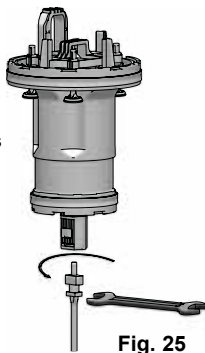

Fig. 25
- Using a 6mm spanner, turn the dosing piston through a quarter turn anticlockwise to unlock it and release it from the piston motor. **(Fig.25)**